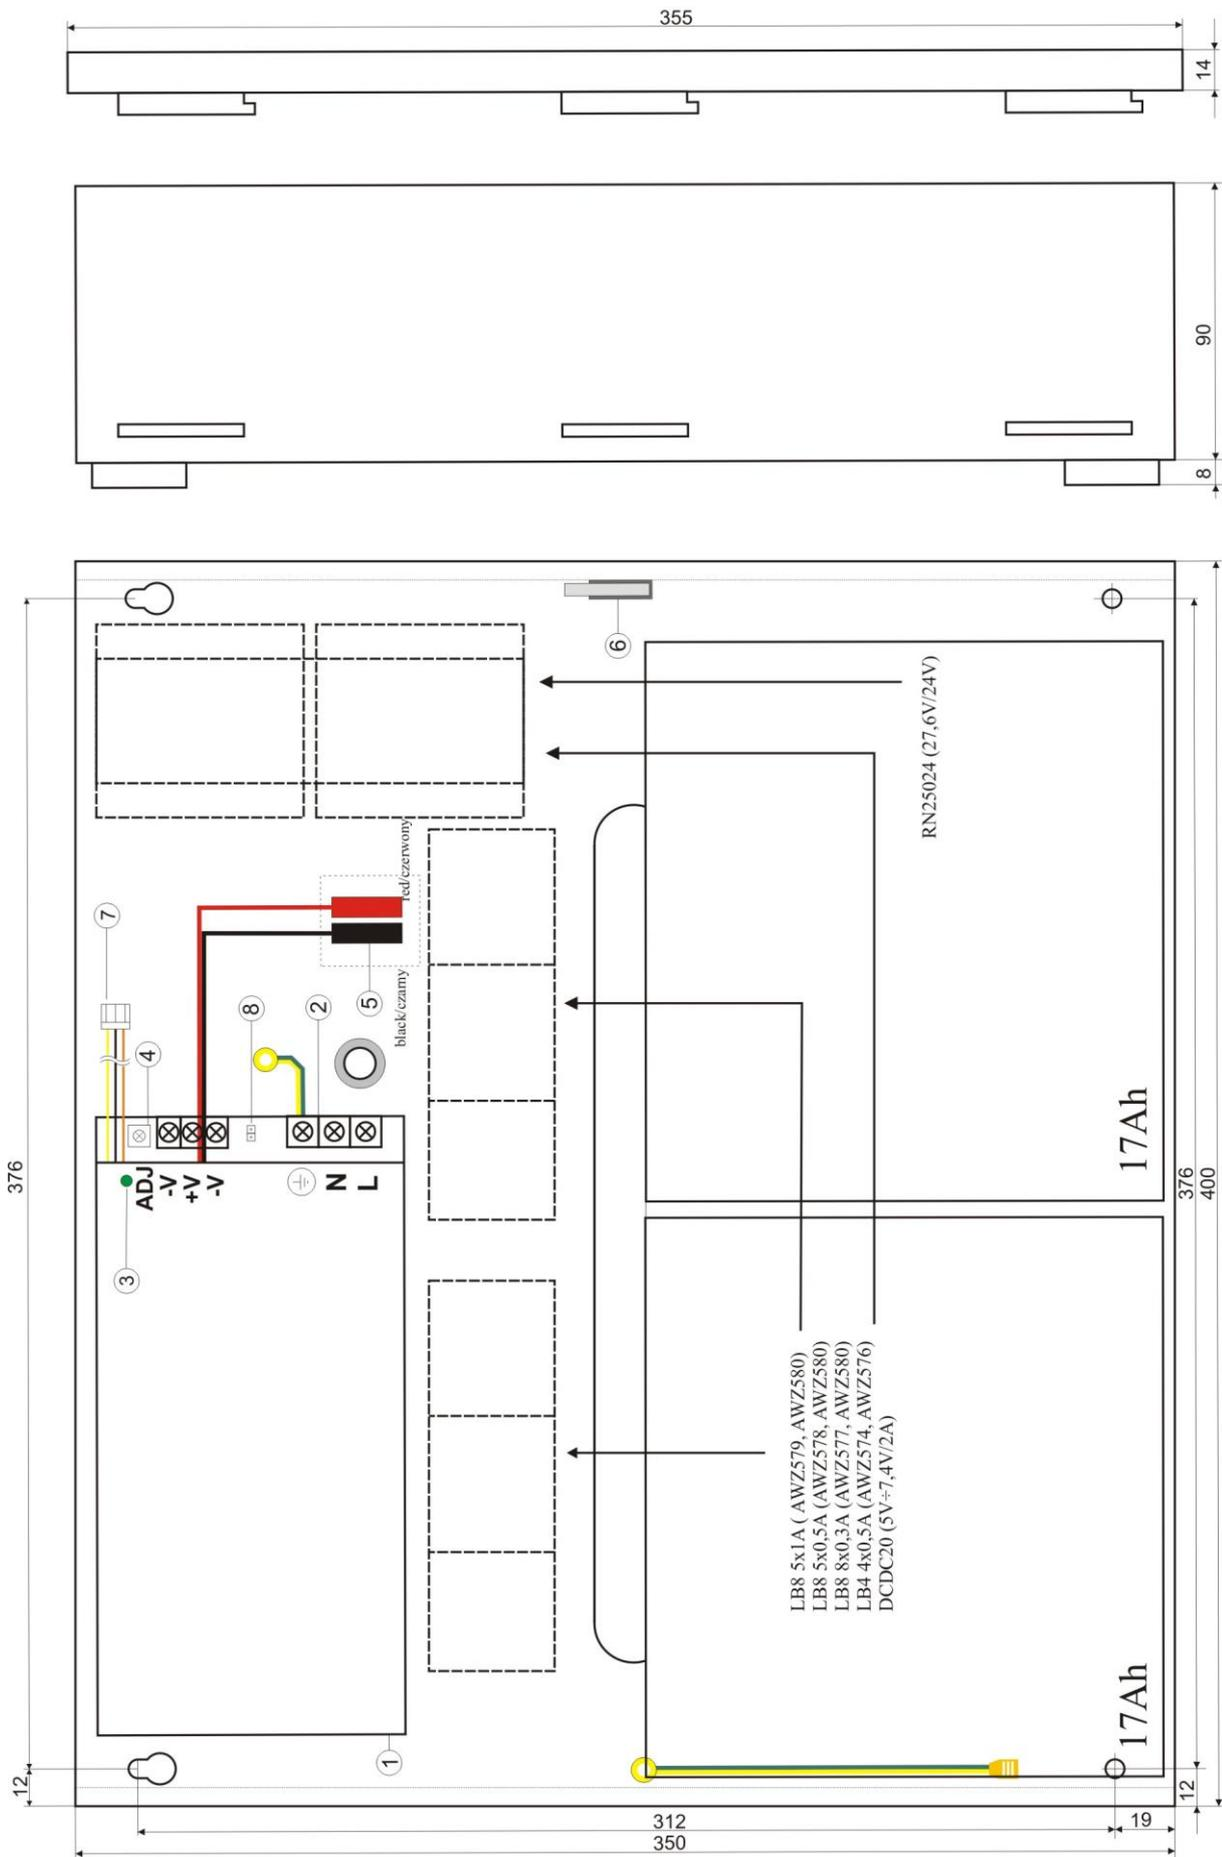

Fig.2. The view of the PSU.
1.3 Description of PSU components and connectors (tab.1, tab.2, fig.2).
Element no. [Fig. 2]	Description
Element [Fig. 2]	Description
Fixation	see figure 2